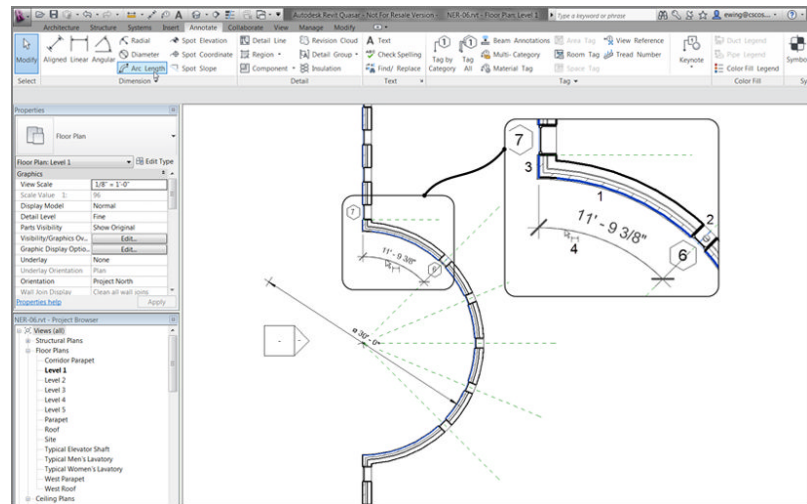

FIGURE 5.22: Placing an arc length dimension involves four separate picks.
1. Zoom in on the west radial entry of the west wing, as shown in Figure 5.22.
2. On the Annotate tab, click the Arc Length button, as shown at upper left in Figure 5.22.
3. Pick the finish face exterior face of the brick on the radial wall marked 1 in Figure 5.22.
5. Pick a point along the exterior face of brick that runs along the vertical intersecting wall, marked 3 in Figure 5.22.